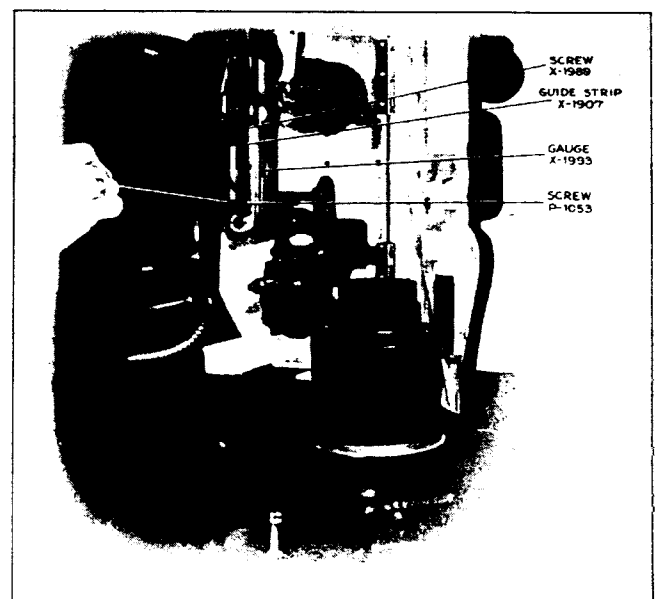

Figure 8—Film Guide Strip Adjustment
9. Adjust outer guide strip, X-1907, flush with ground edge of gauge, see Figure 8, by means of screws P-1053.